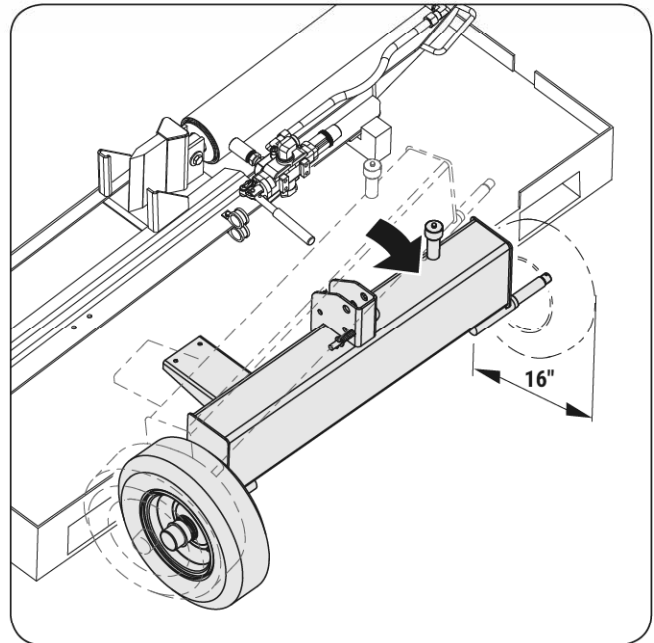

Figure 3e
- Move the reservoir and let the other side wheel shaft outside of the pallet. (See **Figure 3e**.)